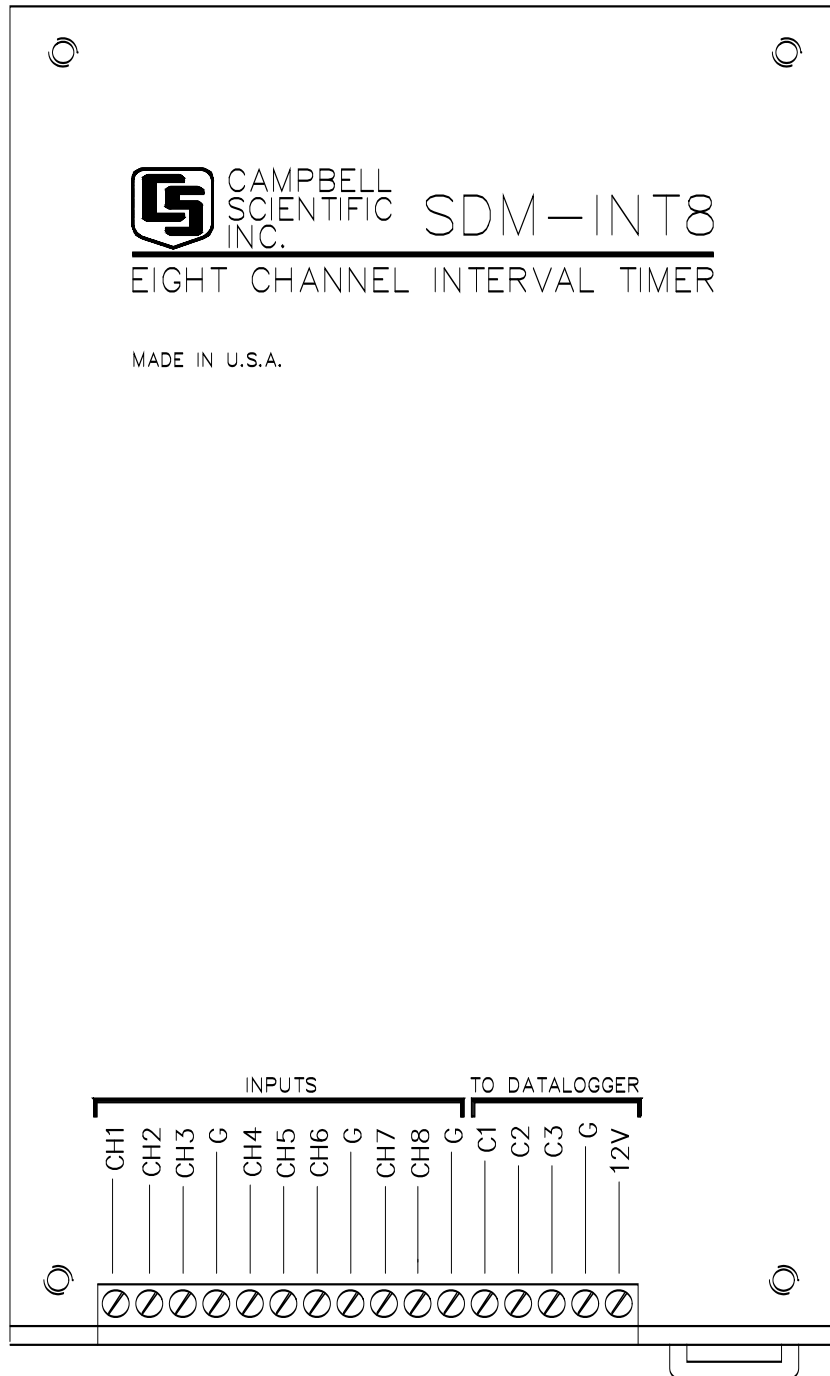
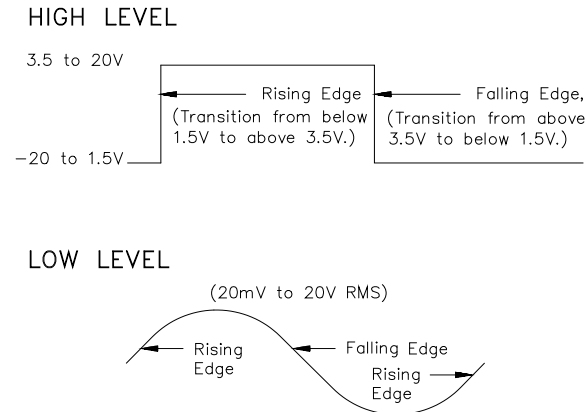

FIGURE 1-1. SDM-INT8 Front Panel
FIGURE 1-2. Voltage Input Options, Edges, and Thresholds
The 8 channel Interval Timer (SDM-INT8; see FIGURE 1-1) is a measurement module which outputs processed timing information to a 21X, CR10(X), CR23X, CR800, CR850, CR1000, CR3000, CR5000, or CR9000(X) datalogger. Each input channel is programmed to detect transitions from low or high level voltage inputs (FIGURE 1-2). Period, pulse width, frequency, counts, and time intervals are output to the datalogger for further processing/logging.